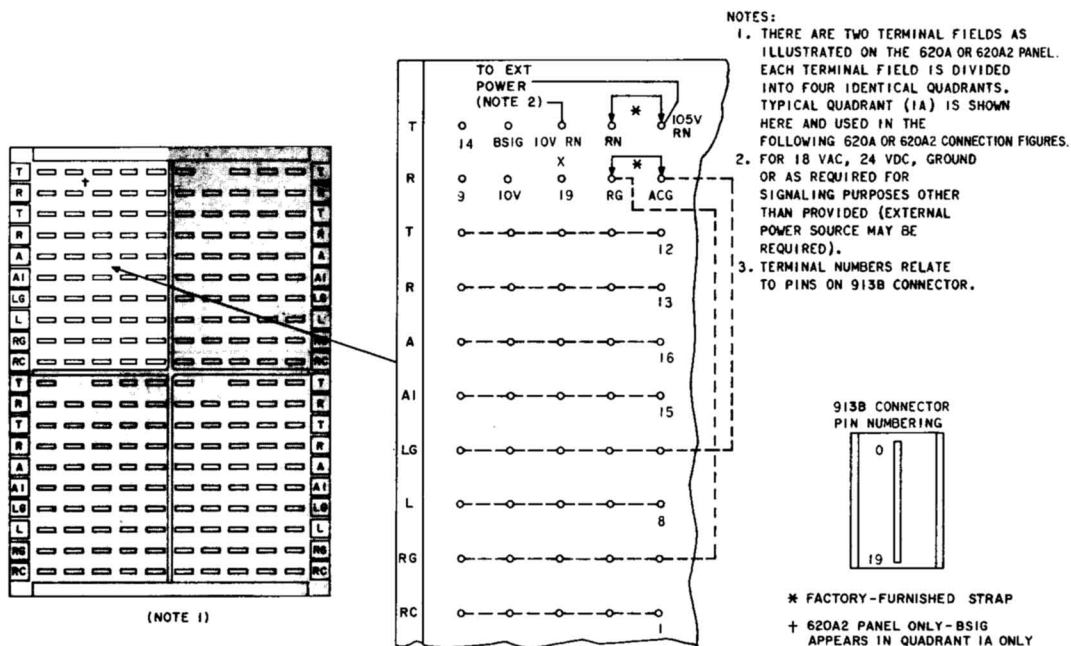

Fig. 14—♦Terminal Field Illustration and Terminal Designations for 620A (MD) or 620A2 Modular Panel (CO/PBX and Private Line Services)♦
**4.02** Preceding the 620A-type and 642A modular panel connections are typical terminal field illustrations of those panels showing the upper left-hand quadrant (1A) of the quick-connect field as an example of all its quadrants (Fig. 14 and 39).